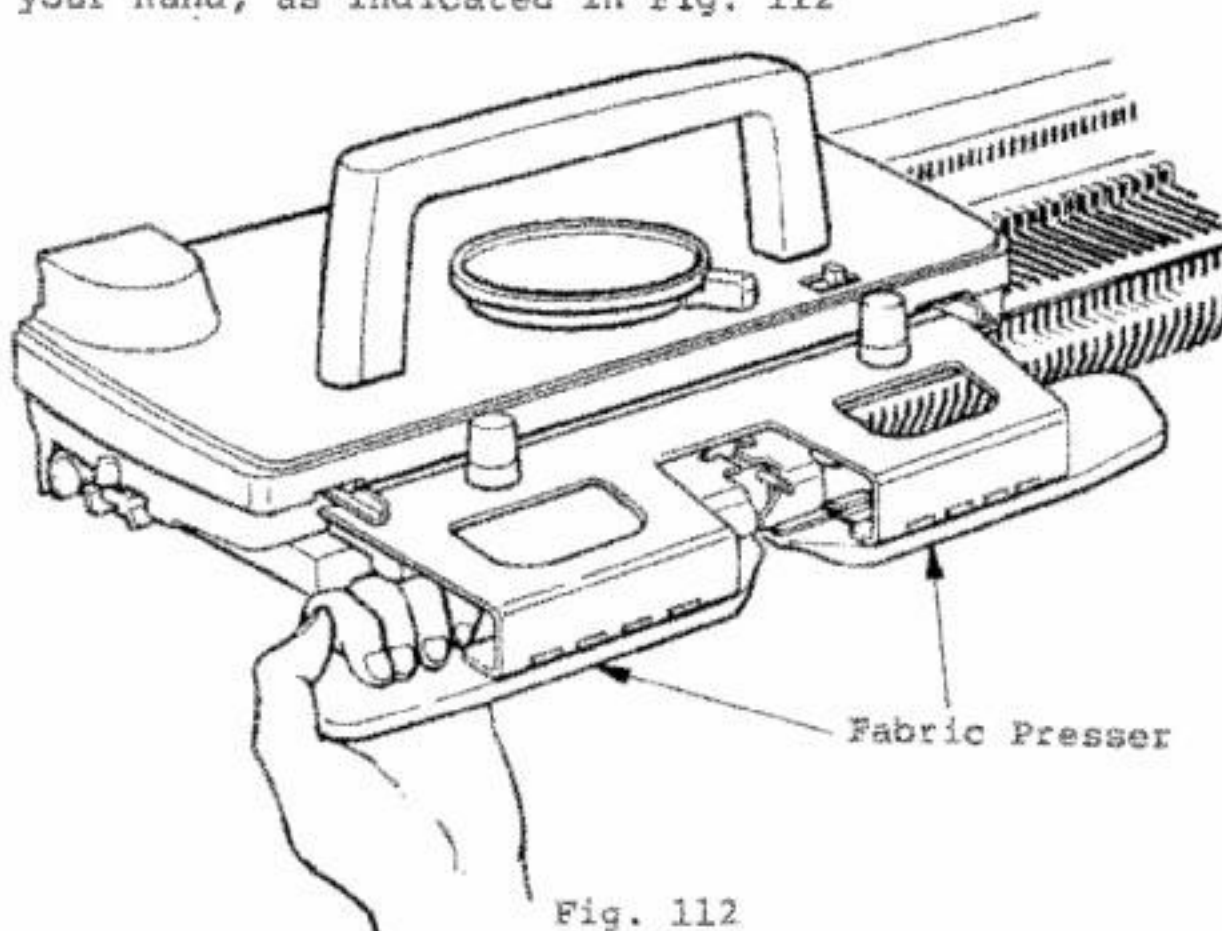

Fig. 112
5. In case the Fabric Presser touches the Needles too much, move the Carriage to the end of the Needle Bed (in the direction of the part of the Fabric Presser that requires adjustment) and pull the edge of the Presser downwards with your hand, as indicated in Fig. 112